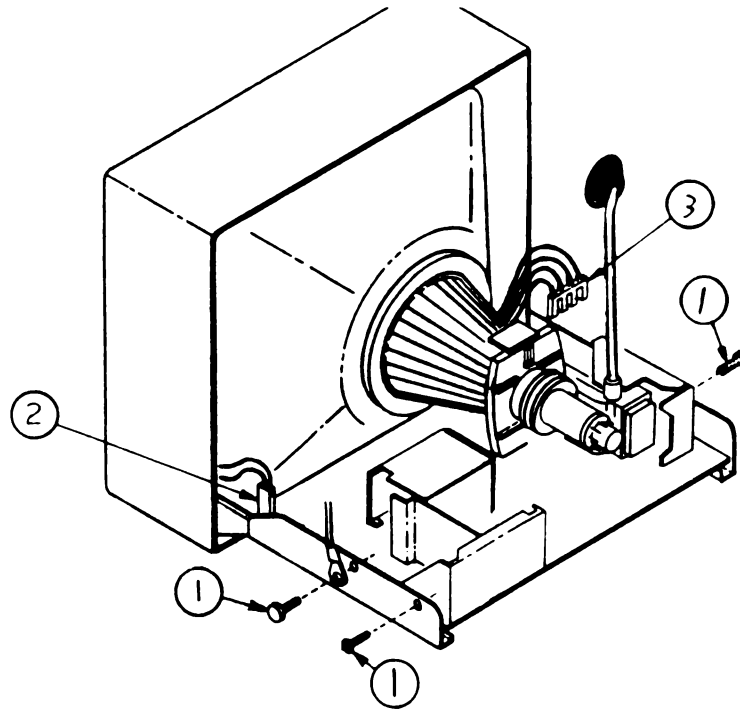

FIGURE 10
2. Slide the main logic board about an inch into its metal tray, and install connector DY (Figure 10, #3).
3. Slide the main logic board the rest of the way into its metal tray. Replace the three screws (Figure 10, #1) and the ground wire.
6. Install the PC connector (from the degaussing coil surrounding the CRT—Figure 10, #2) on the main logic board.